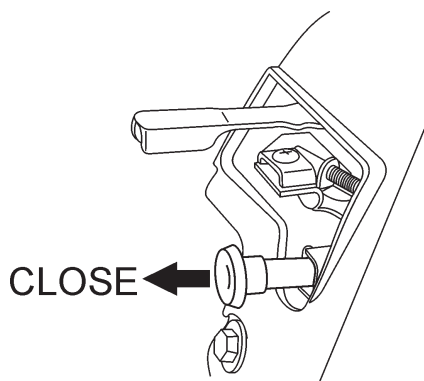

Figure 34. Choke Lever (Closed Position)
5. If operating the SP2 CE in **cold weather conditions**, place the **Choke Lever** (Figure 34) in the **CLOSED** position.
8. Once the engine has started, slowly return the choke lever (Figure 34) to the **CLOSED** position. If the engine has not started repeat steps 4 through 7.